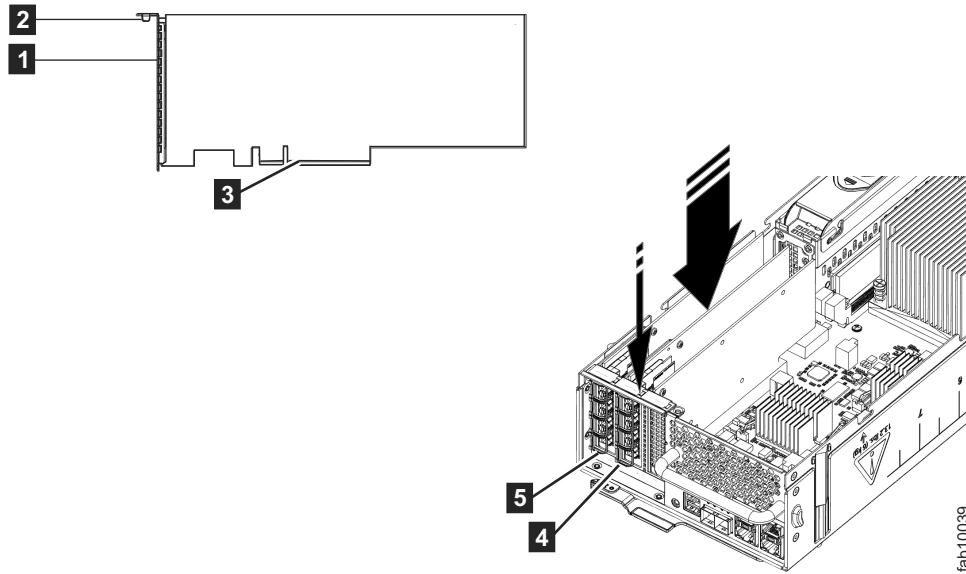

Figure 84. Installing the host interface adapter
6. Remove the replacement host interface adapter **1** from its package. Figure 84 on page 256 displays installing the host interface adapter.